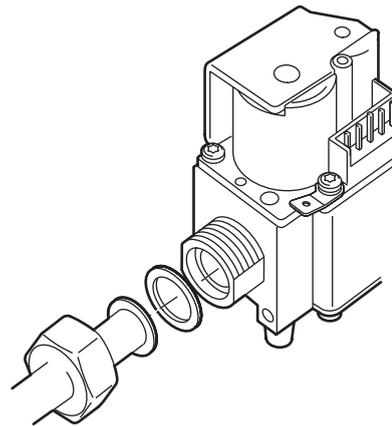

Fig. 2. External thread connection with nut and flat sealing ring
- ❶ With $\frac{1}{2}$ " nut and flat sealing ring for pipe 14 mm (see fig. 2.)
- ❷ With $\frac{1}{2}$ " nut and flat sealing ring for pipe 15 mm (see fig. 2.)
⑤ With 3/4" nut and flat sealing ring for pipe 15 mm (see fig. 2.)
⑥ With 3/4" nut and flat sealing ring for pipe 18 mm (see fig. 2.)